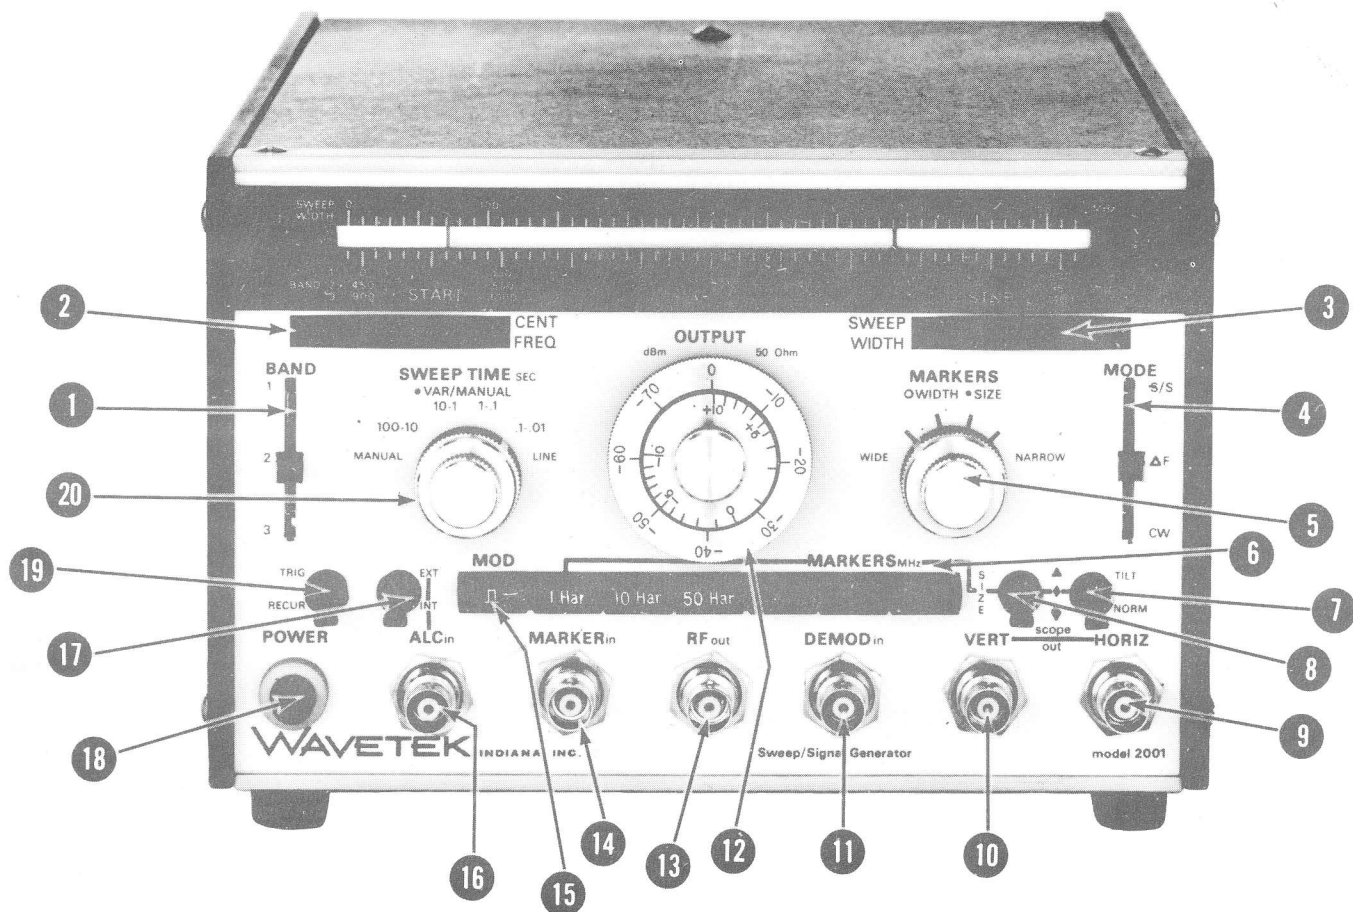

Figure 3-1. Front Panel
3.2 DESCRIPTION OF FRONT PANEL (Refer to Figure 3-1 for control location)